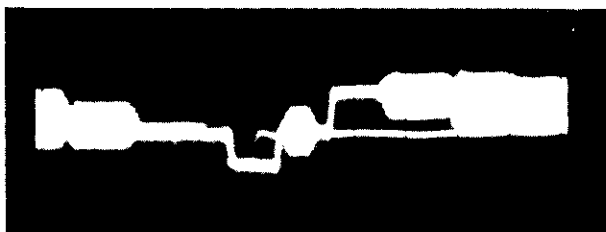

Fig. 25—Chroma Level
4. Adjust R3312 so that the p-p level of color reference burst is 1V p-p see Figs. 25 & 28.